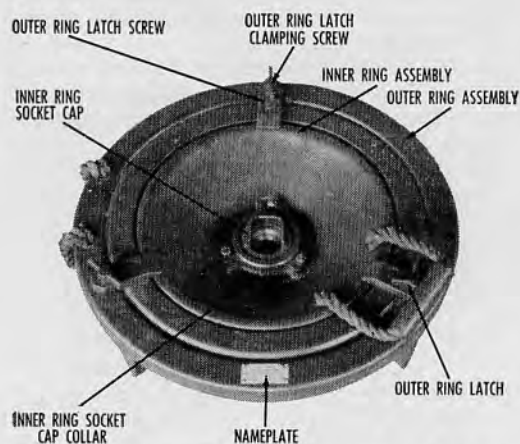

Fig. 30.4 81-mm mortar baseplate M23A1.
3. The base plate consists of two units; the inner ring and the outer ring. (Fig. 30.4).